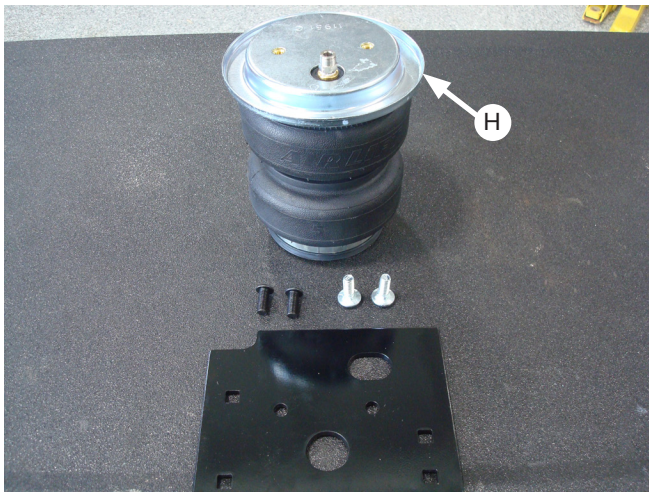
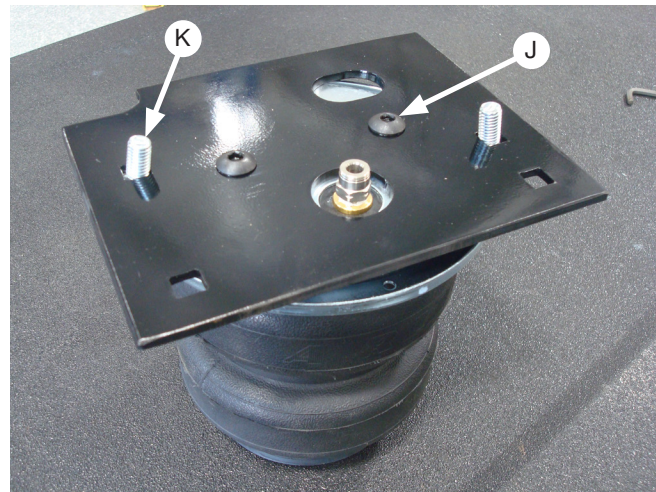

Fig. 12
Fig. 13
- Place a roll plate (H) on top of the air spring (Fig. 12). Place two 1" carriage bolts (K) into the upper spring plate (D) (Fig. 13), then screw the plate to the air spring with two button head screws (J). Torque to no more than 20 lb.-ft. (27Nm).